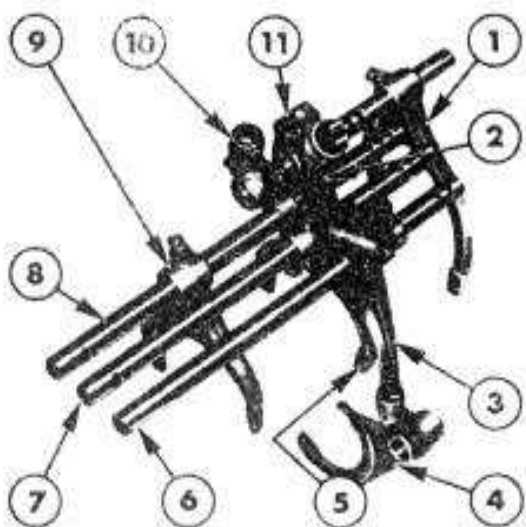

Figure 44
2. Pass the 4th-8th shift rail with the single detent to the front, Figure 44 into the rear of the bore nearest the left-hand side of the casing,. Assemble the 4th/8th shift arm assembly onto the rail with the operating arm located into the hole in the 4th-8th shift fork which is mounted on the reverse idler shaft.